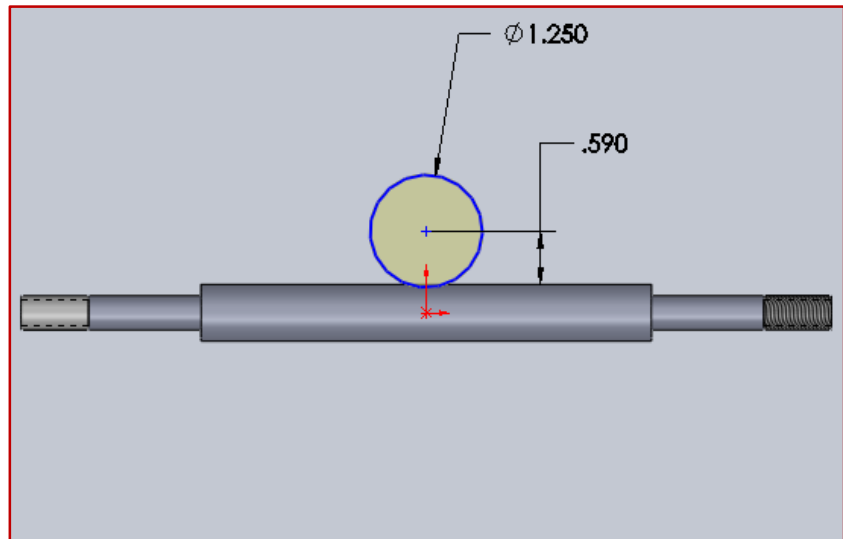

Figure 7.2 – Seat for the Rubber Spacers
- ✓ Select the top plane and sketch a circle with the dimensions shown in Figure 7.2. (Pick the **Top Plane**, click **Sketch** in the **Sketch tab** and then click **Circle**).